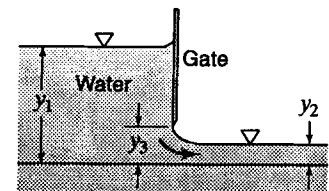

Figure X6.4.2
6.4.3 Refer to Fig. X6.4.2. Find the horizontal thrust of the water on each foot of width of the sluice gate, given  $y_1 = 7 \text{ ft}$ ,  $y_2 = 1.2 \text{ ft}$ , and  $y_3 = 1.4 \text{ ft}$ . Neglect friction.